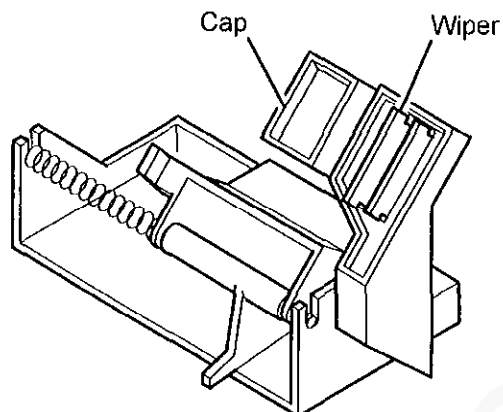

Figure 10 Maintenance Station
6. Clean the maintenance station with a soft cloth moistened with water (figure 10).